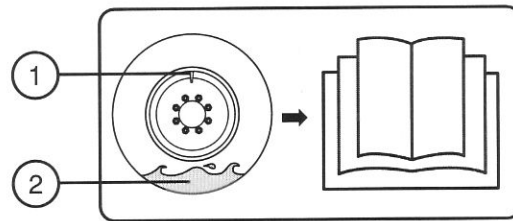

Figure 2-9. Tire Sealant Label
- When depressurizing, inflating or checking tire pressure, ensure that the valve stem is at the top to prevent sealant from entering the stem (refer to Figure 2-9).